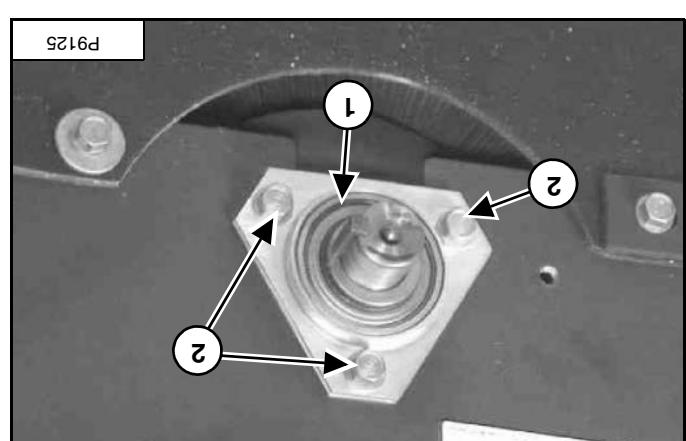

Figure 123
NOTE: The bearing mounting flanges will separate when the bolts are removed. Remove the square key (item 1) and the bolts (item 2) [Figure 123] from the bearing mounting flange (both ends).